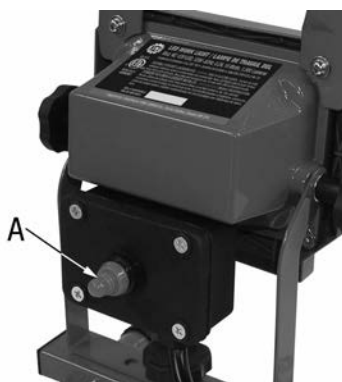

FIGURE 5
Your work light is equipped with a weather protected sealed ON/OFF switch (A) Fig.5 located on the back side of the work light. Press the switch once to turn the work light on and press the switch a second time to turn it off. Always turn the work light off before unplugging from power source.